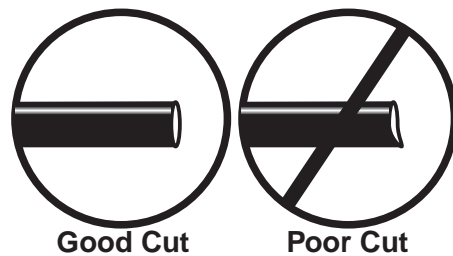

fig. 13
WHEN CUTTING OR TRIMMING THE AIR LINE, USE A HOSE CUTTER, A RAZOR BLADE, OR A SHARP KNIFE. A CLEAN, SQUARE CUT WILL ENSURE AGAINST LEAKS. DO NOT USE WIRE CUTTERS OR SCISSORS TO CUT THE AIR LINE. THESE TOOLS MAY FLATTEN OR CRIMP THE AIR LINE CAUSING IT TO LEAK AROUND THE O-RING SEAL INSIDE THE ELBOW FITTING (FIG. 13).
- a. Check the air line connection by deflating the spring and removing the line by pulling the collar against the fitting and pulling firmly on the air line. Trim 1" off the end of the air line. Be sure the cut is clean and square (see fig. 13). Reinsert the air line into the push-to-connect fitting.